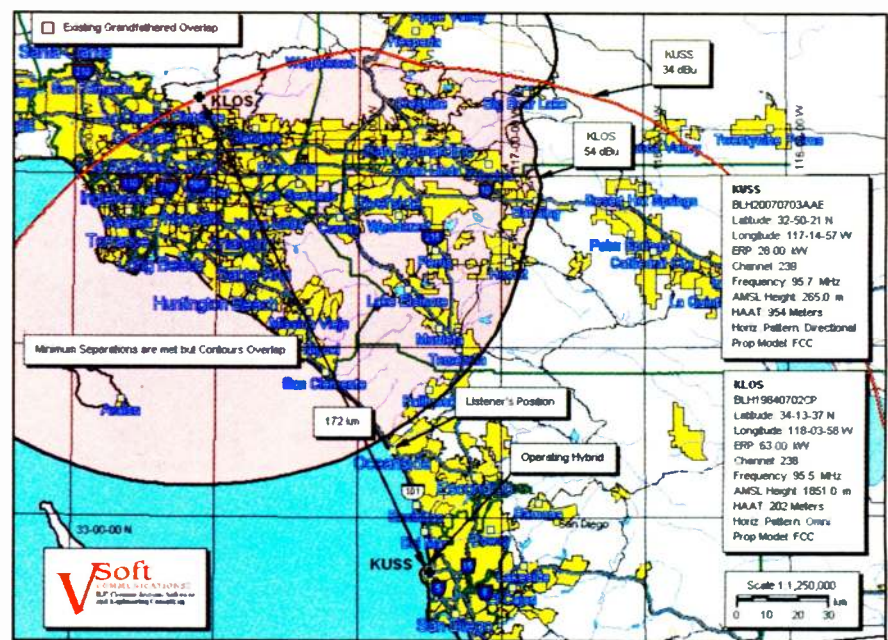

Fig. 8: Minimum separations are met but contours overlap.
In the first case of reported first-adjacent IBOC interference (see Fig. 8), an Oceanside listener to Los Angeles' KLOS(FM) complained that when KUSS(FM) in Carlsbad started transmitting with hybrid IBOC, all listening to KLOS ceased in the listener's area. The interference was described by the listener as "a steady carrier hiss."